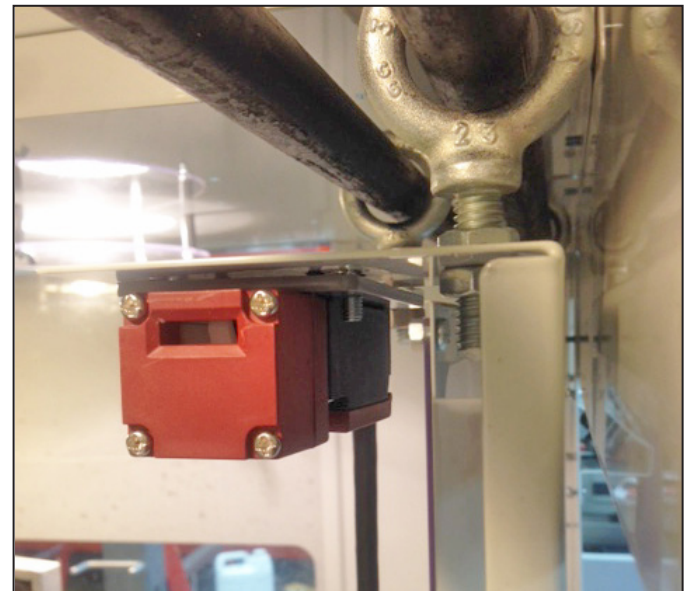

Figure 2
3. Use two 10-32 x 7/16" Screws to mount the Door Switch w/ Plate to the right enclosure door at the location shown in **Figure 2**.